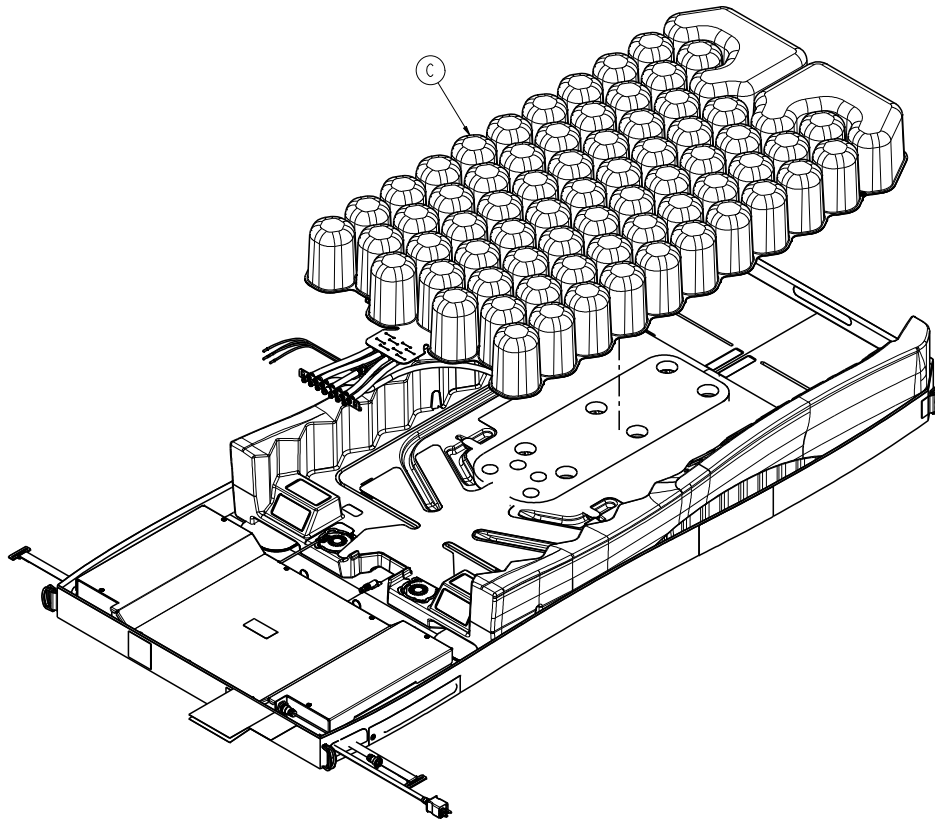

Figure 8 – Pod assembly
10. Reach under the pod assembly (C) from the patients right side near the middle to access the turn bladder and disconnect the turn bladder quick disconnect. Repeat on the patient left side (Figure 8).
11. Separate the **Velcro®** from the head end of the pod assembly (C) and feed the turn bladder hose quick connection through the foam crib.
12. Remove and discard the pod assembly (C)(Figure 8).